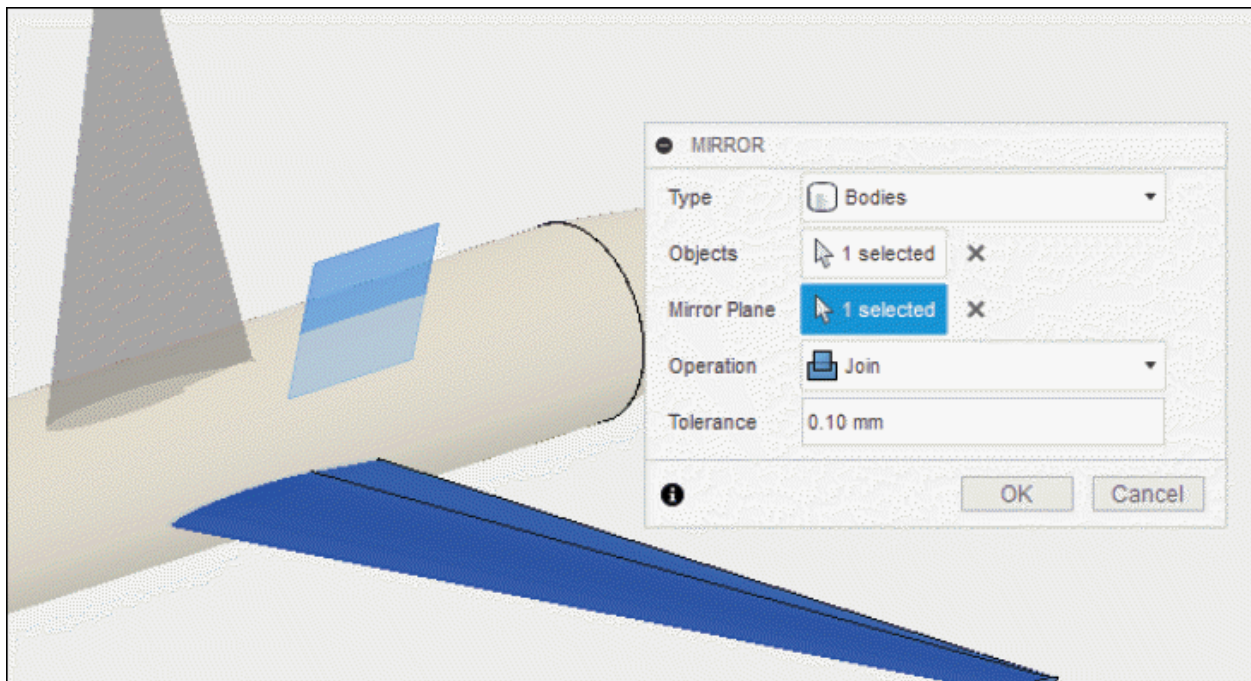

Figure-50. Creating Mirror copy of wing
- Click on **Select** button of **Mirror Plane** section and select the **XZ** plane; refer to Figure-50.